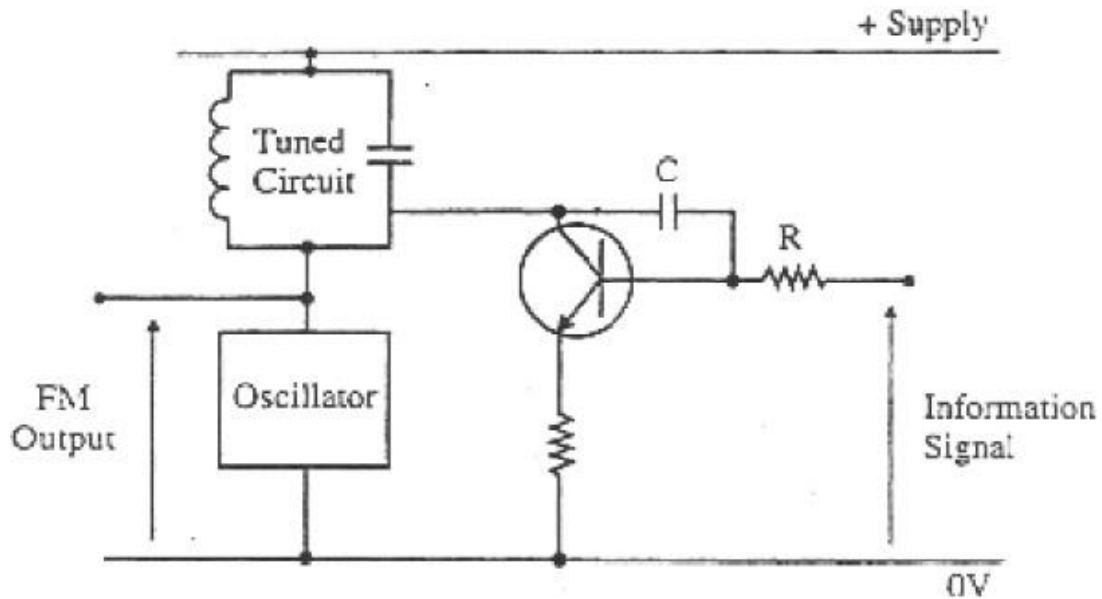

Figure 3: FM using Reactance Modulation.
FM Using Reactance Modulator: In fig. 3, the left hand half is the previous varactor modulator simply an oscillator and a tuned circuit, which generates the un-modulated carrier. The capacitor C and the resistor R are the two components used for the phase shifting, and together with the transistor, form the voltage controlled capacitor. This voltage-controlled capacitor is actually in parallel with the tuned circuit.
2. Make the connections as shown in fig 3.